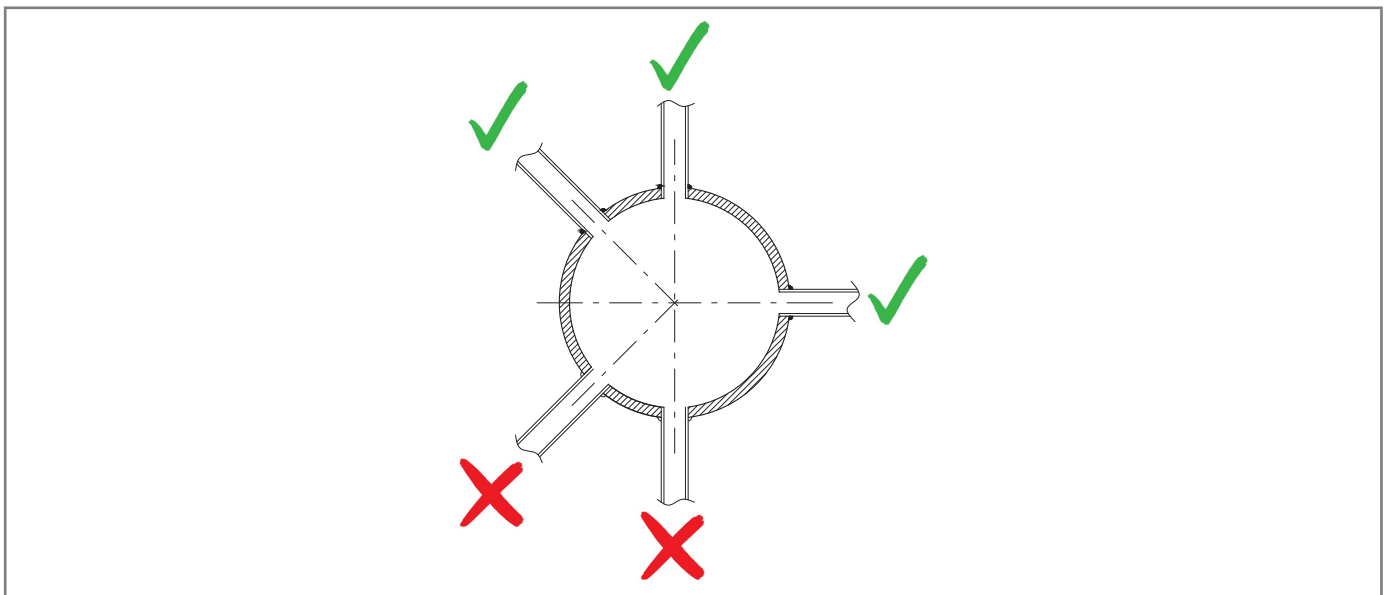

Fig. 1.11. Welded pipe connections
- the connections of the pneumatic connection are always welded to the top or horizontal axis of the pipe itself (refer to Fig. 1.11);